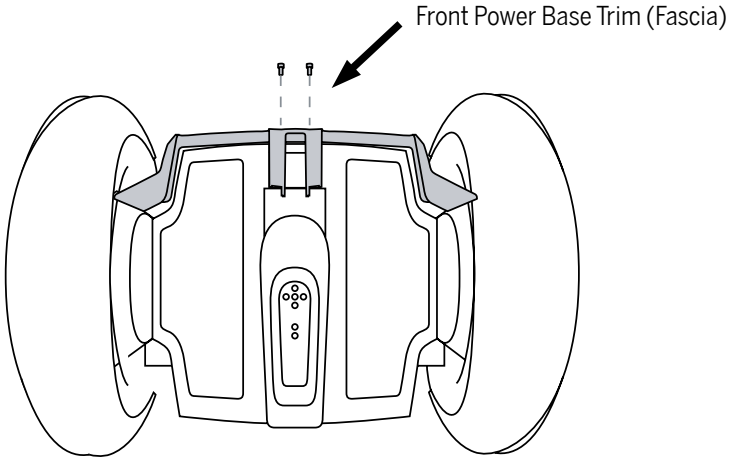

Figure 1. Remove Fascia Fasteners
2. Remove the (2) fasteners from the Front Power Base Trim (Fascia) using a 4 mm hex wrench. **See Figure 1.**